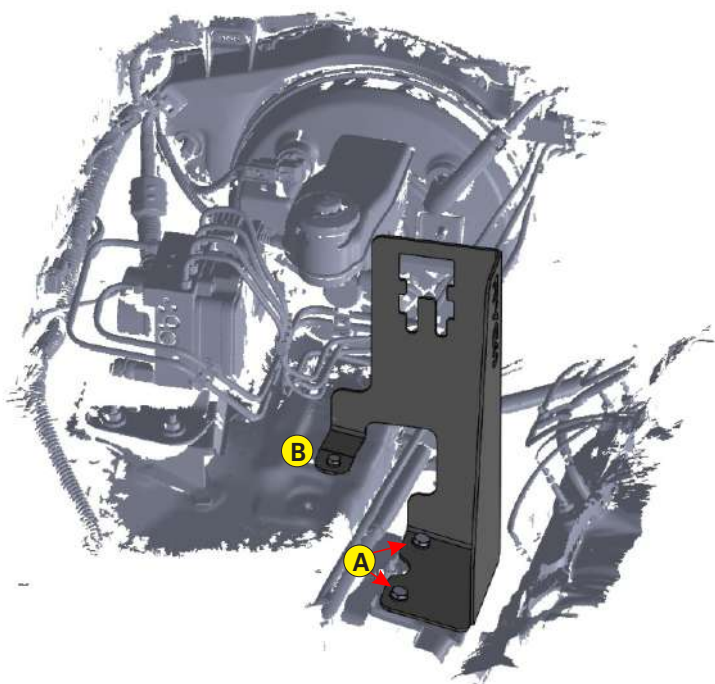

FIG. 1 CATCHCAN BRACKET POSITION AT ENGINE BAY
1. Locate the bracket mounting position on the drivers side of the engine bay as shown in Fig. 1 , then remove the two (2) factory bolts (A in Fig. 1) from the suspension upper control arm shield, but do not remove the shield.